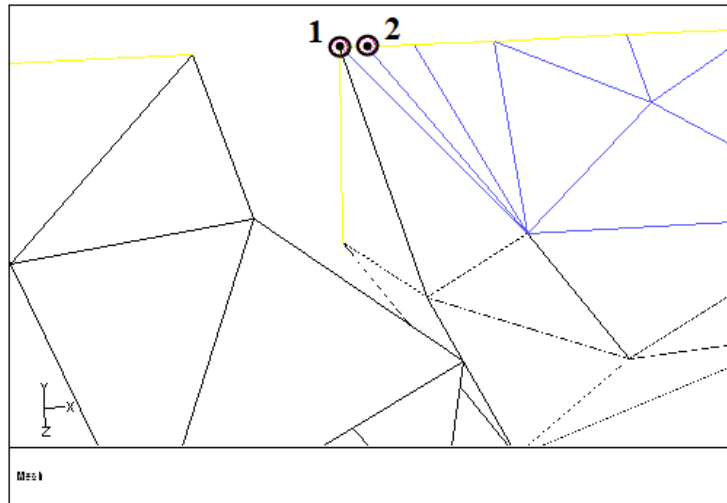

Figure 1.12: Nodes to be Merged
- (d) Select the nodes as shown in Figure 1.12.